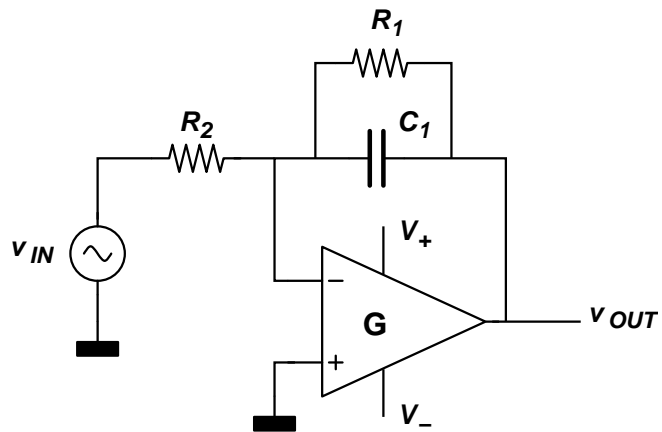
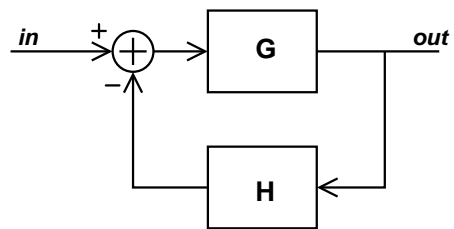

Figure 1: Low-pass filter.
Figure 2: Typical feedback system.
Figure 1 shows the schematic of an active low-pass filter. The circuit uses feedback to obtain a low-pass filter characteristic. Starting from figure 2, the loop gain is given by
- What will change with the circuit of figure 1 if you use an asymmetric supply between 0 and V_{DD} ?